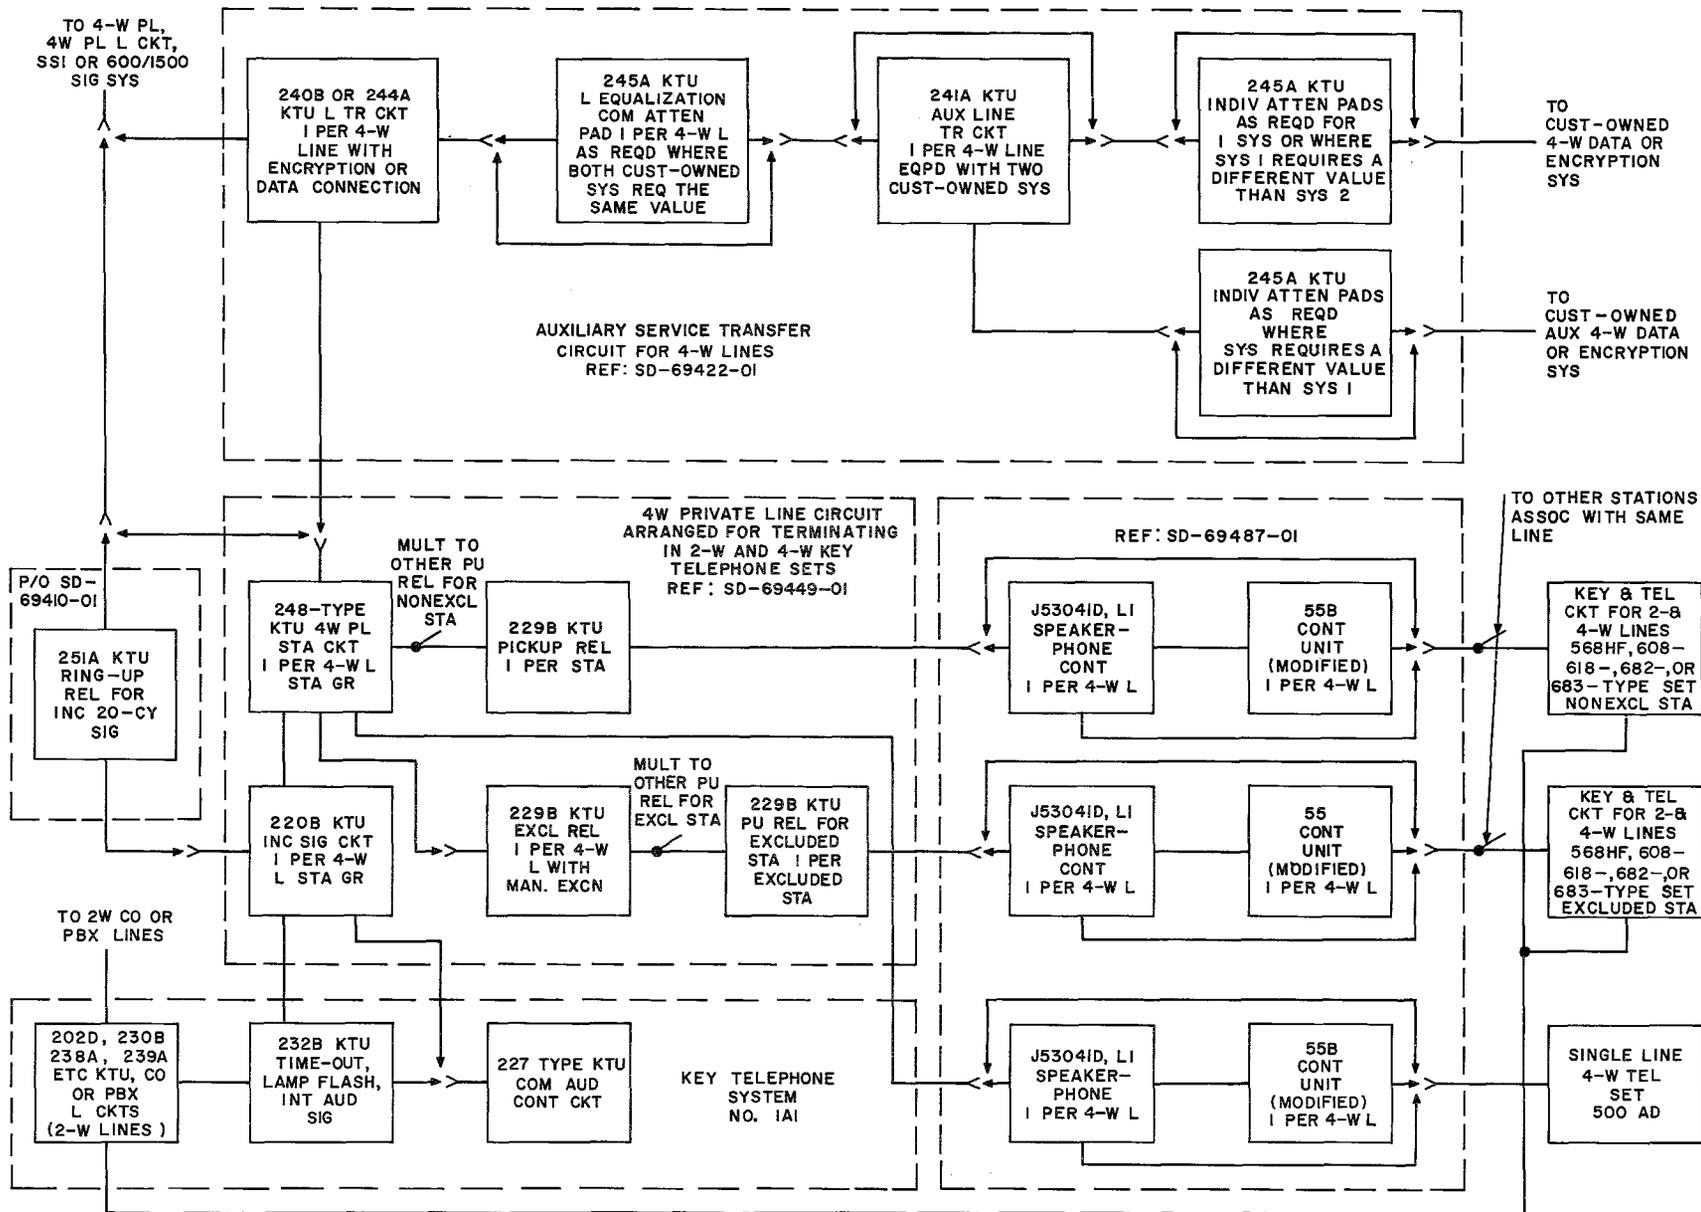

Fig. 1 - Block Diagram, Station Arrangement For 2- and 4-Wire Service
- Show the 565HF telephone set as a replacement for the 565HB which is rated Manufacture Discontinued (MD).
- (a) To provide an arrangement for terminating a 4-wire local battery private line circuit in single line or 2- and 4-wire key telephone sets (Fig. 1).